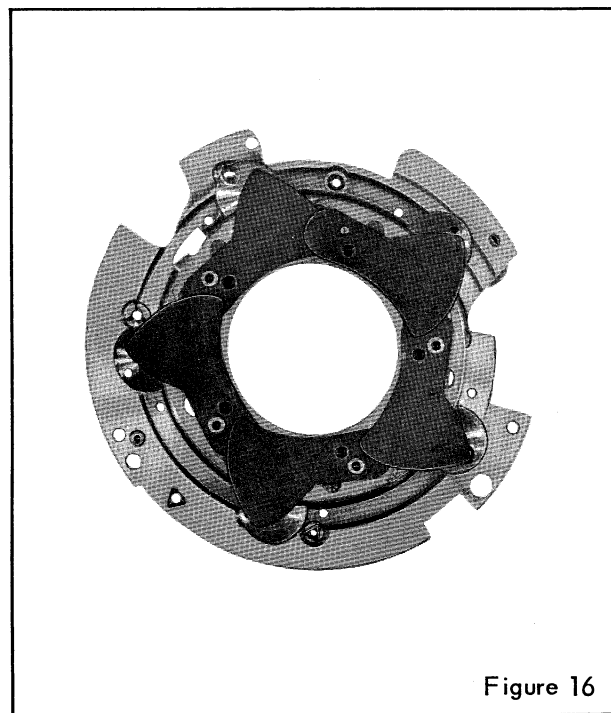

Figure 16
5. BLADE over the blade with double blade bushing and stud. The back of the mechanism plate should appear as shown in figure 16.